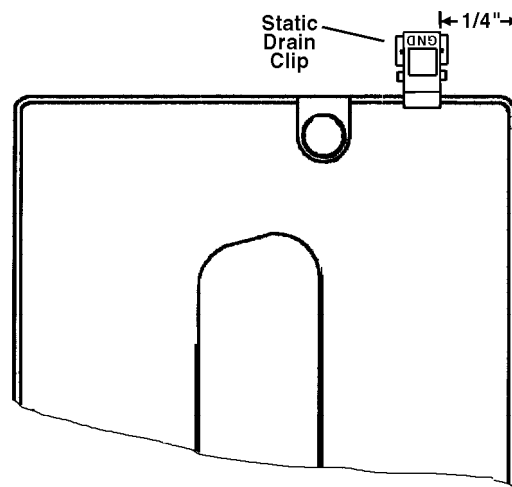

Figure 3-3. Location of Static Drain Clip On Replacement Instrument
5. Remove the back cover from the mounted instrument and install the static drain clip on the back of the housing (the clip is supplied with the instrument). Locate the clip near the upper right corner as shown in Figure 3-3. This location aligns the clip with a recess in the back cover allowing the cover to seat properly against the back of the housing with the clip installed.